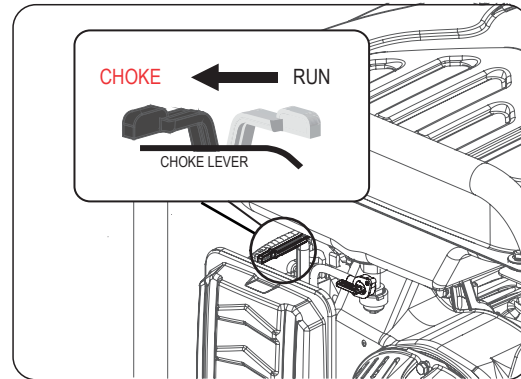

Fig 7 **SKIP THIS IF THE ENGINE IS WARM OR HOT.**
- Slide the choke lever to the “Choke” position. (See fig 7) **SKIP THIS IF THE ENGINE IS WARM OR HOT.**